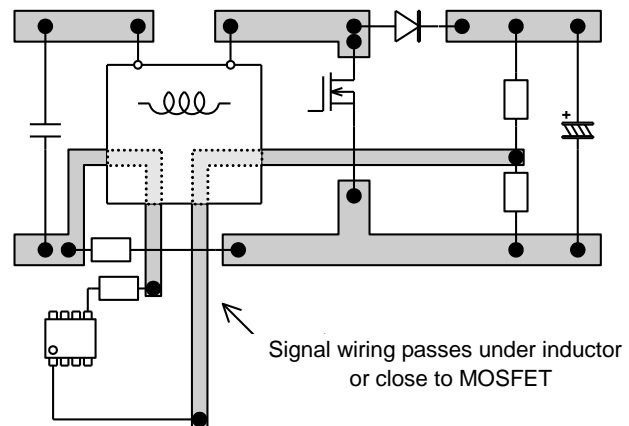

Fig.35 Example of inadvisable pattern
- Signal wiring is placed under inductor or near MOSFET or diode (Fig. 35)